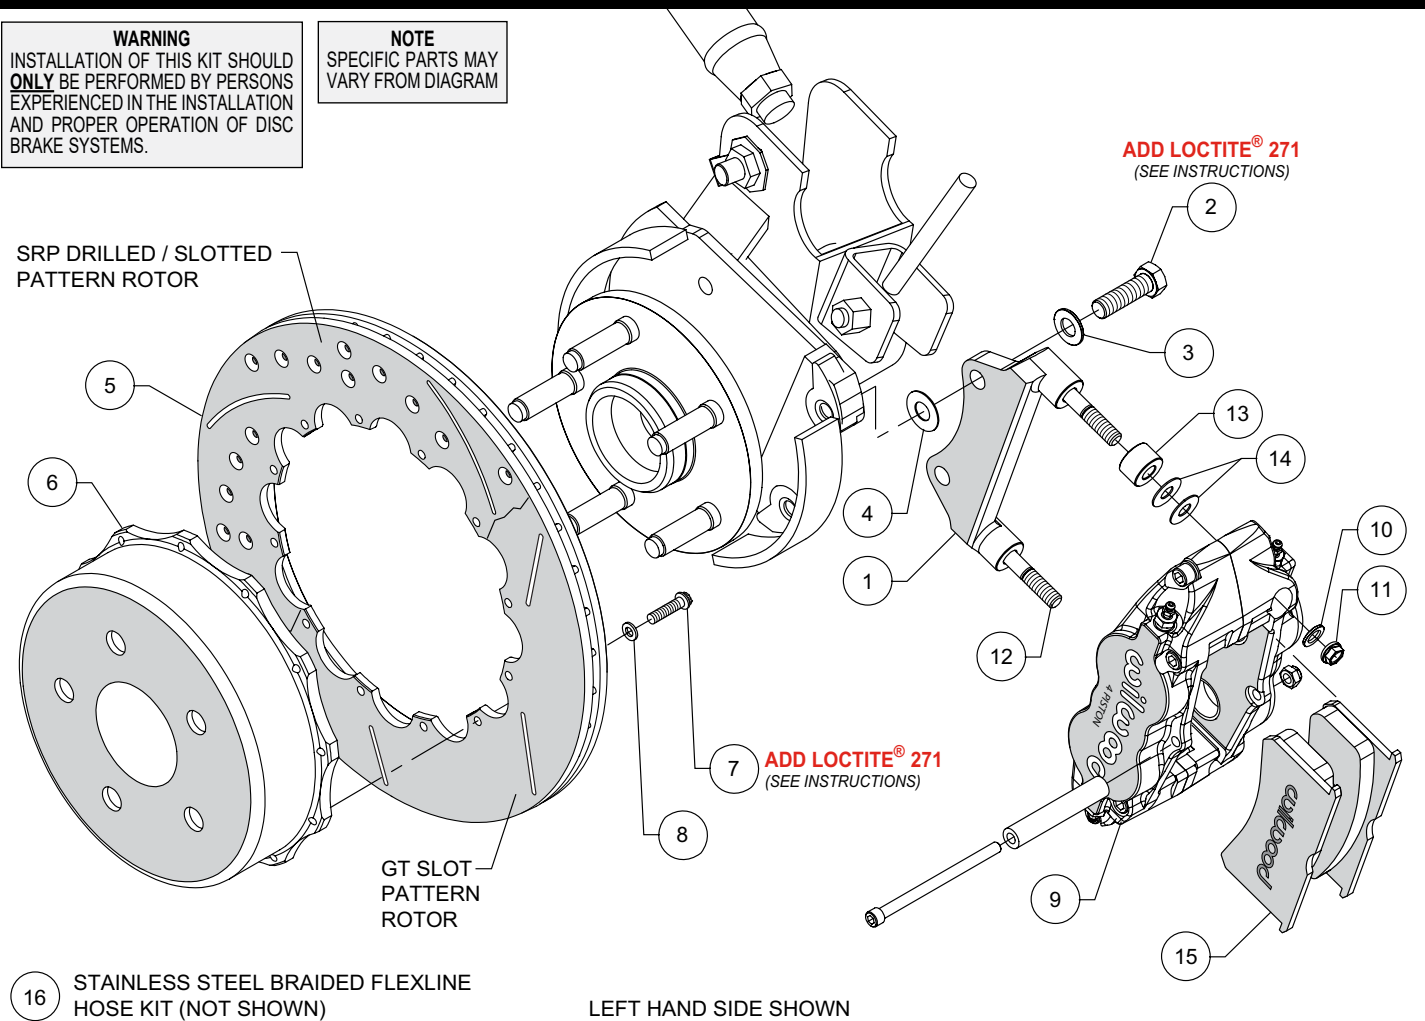
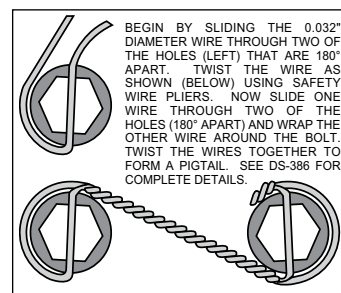

Figure 1. Typical Installation Configuration
Figure 3. Safety Wire Diagram
Assembly Instructions (numbers in parenthesis refer to the parts list and Figure 1 on the preceding pages):
- The caliper mount bracket (1) should initially be installed with clean, dry threads on the mounting bolts. Orient the bracket as shown in Figure 1, and install using mount bolts (2) and washers (3). Initially place one .033" thick shim (4) on each bolt between the bracket and upright, Figure 1. Temporarily tighten the mounting bolts. **NOTE:** The bracket must fit squarely against the mount bosses on the upright. Inspect for interference from casting irregularities, machining ridges, burrs, etc. Later, after the caliper alignment has been checked, the mount bolts will be secured using red *Loctite*® 271.
- Orient the rotor (5) and the hat (6) as shown in Figure 1 and Photo 2. Attach rotor to hat using bolts (7) and washers (8). Apply red *Loctite*® 271 to the bolt threads and torque to 140 in-lb using a criss-cross pattern. The bolts must be safety wired using standard 0.032 inch diameter stainless steel safety wire as shown in Figure 3. Please refer to Wilwood's data sheet DS-386 (available at www.wilwood.com/Pdf/DataSheets/ds386.pdf) for complete safety wire installation instructions.
- Initially place one spacer (13) and two .035" thick shims (14) on each stud (12) as shown in Figure 1 and Photo 4. Mount the caliper (9) onto the bracket (1) using lock nuts (11) and washers (10), Figure 1. Temporarily tighten the lock nuts and view the rotor through the top opening of the caliper. The rotor should be centered in the caliper, Photo 5. If not, adjust by adding or subtracting shims (4) between the bracket and the mounting bosses. Always use the same amount of shims on each of the two mounting bolts. Once the caliper alignment is correct, remove the bracket mounting bolts one at a time, apply red *Loctite*® 271 to the threads, and torque to 60 ft-lb.